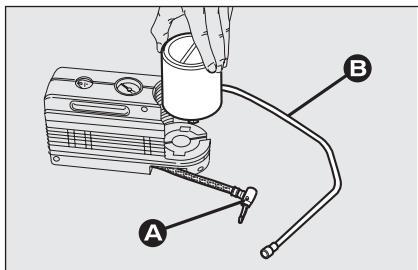

fig. 9
- ☐ disconnect connection **A**-fig. 9;